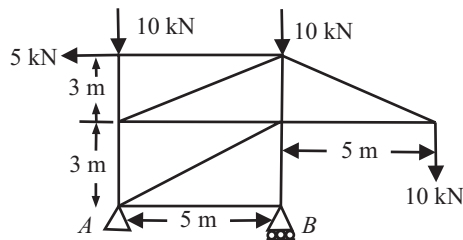

Fig 8.16
Q. 5: Find the reaction at the support as shown in fig 8.16.